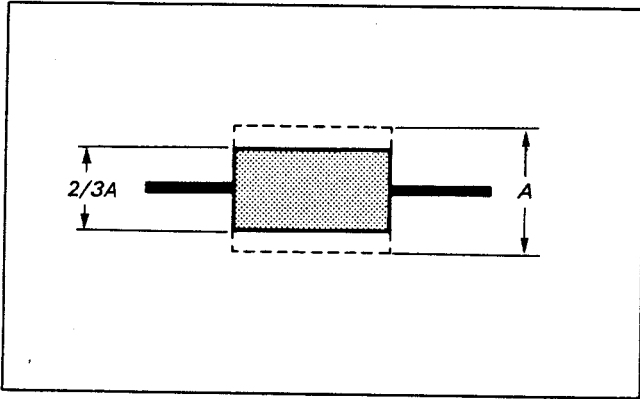

Fig. 4-17
- 2) Set the SEL switch of the track shift & monitor jig to ON, and turn track shift knob until the RF waveform amplitude is 2/3. (Fig. 4-17)